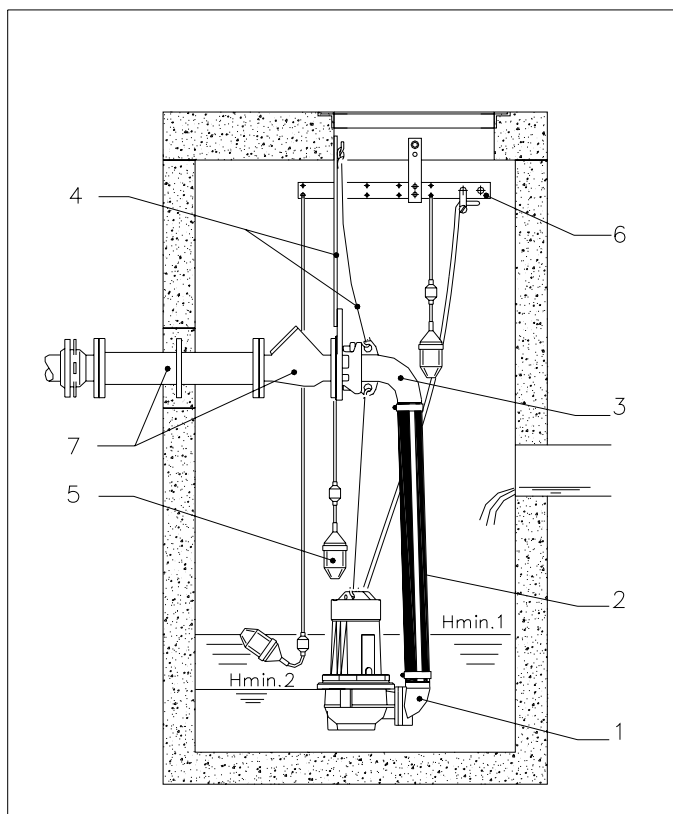
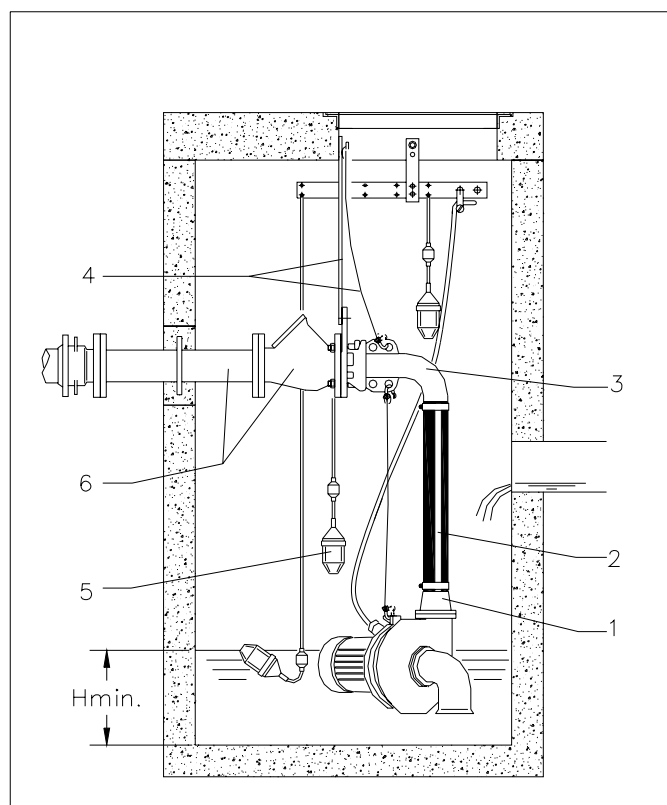

Fig. 6.1
Fig. 6.2
Most of the RW20 pumps (except types with a large pumpcasing) will have a vertical position, see Fig. 6.1. All RW 40 and RW60 pumps are horizontally placed, see Fig. 6.2. Not available for RW80.
- Check that the motor is adequately cooled. The motorhousing should be at least 2/3 submerged for continuous operation at full load (see Hmin.1 Fig. 6.1).
For interrupted level controlled operation, less cooling is required. We recommend not to run the pump with the water level below the top of the volute in order to avoid air being drawn in (see Hmin.2 Fig. 6.1). Air in the discharge pipes might impair performance.